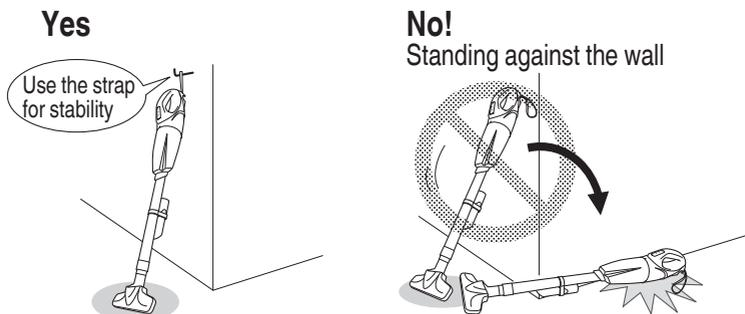

Fig. 21
- Do not stand the appliance against a wall without using the strap to fix it in place. (Fig. 21)